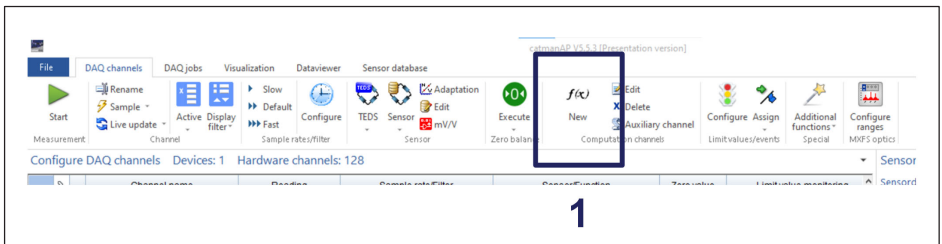

Fig. 5.6 New computational channel button
- Click on the “new” computational channel button (number **1** in Fig. 5.6)